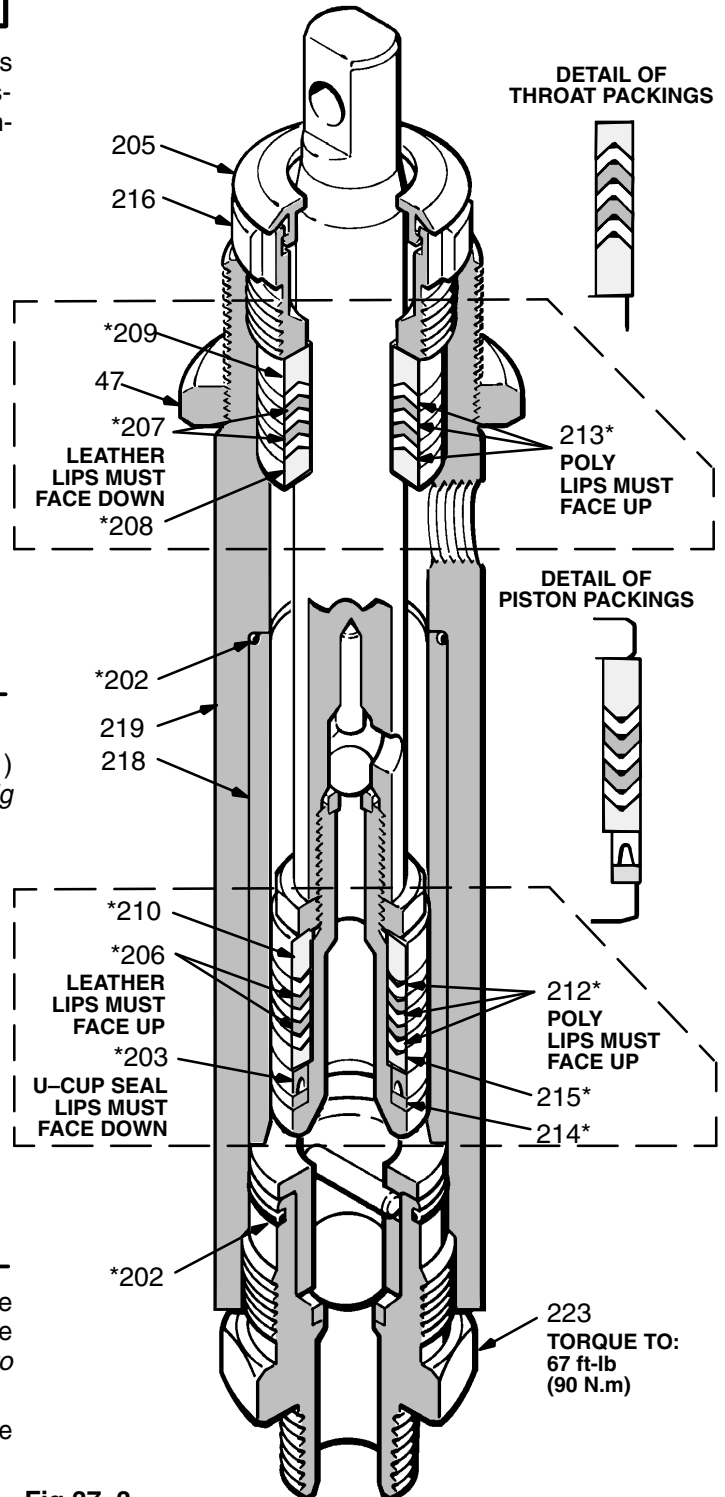
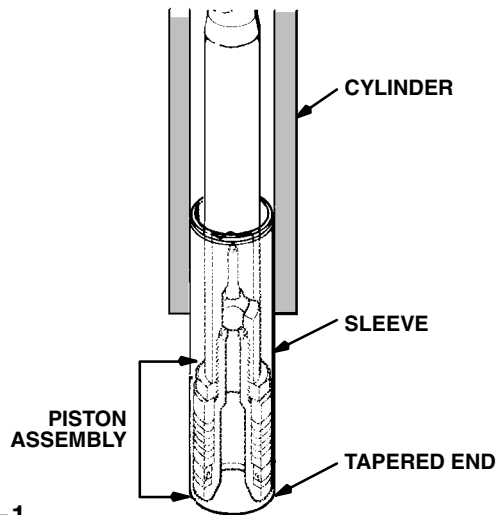

Fig 37-3
Fig 38-1
3. Remove the packing nut (216) and plug (205). Refer to Fig 37-3.
4. Use a plastic mallet to tap the piston rod (224) down, then pull the rod out through the bottom of the cylinder.
5. Remove the throat packings (207, 213) and glands (208, 209). Refer to Fig 37-3.
- One at a time stack the male gland (208*), alternate the packings (213*, 207*), and then install the female gland (9), into the top of the cylinder (219). Refer to Fig 37-3.
- Install the packing nut (216) and plug (205), but leave loose for now. Refer to Fig 37-3.
NOTE: The tapered end of the sleeve is the bottom of it. Refer to Fig 38-1.
- Place a new o-ring (202*) firmly in the cylinder groove. Refer to Fig 37-3.
12. Slide the sleeve/piston rod assembly **INT O THE BOTTOM OF THE CYLINDER** . This is to prevent packing damage during reassembly . *Refer to Fig 38-1.*
13. Screw down the cylinder locknut (47) until it is finger tight at the bottom of the external cylinder threads.
14. Place flats of the intake valve (223) in a vise. Install a new o-ring (202*). Screw the pump cylinder into the valve. Torque to 67 ft-lb (90 N.m). *Refer to Fig 37-3.*